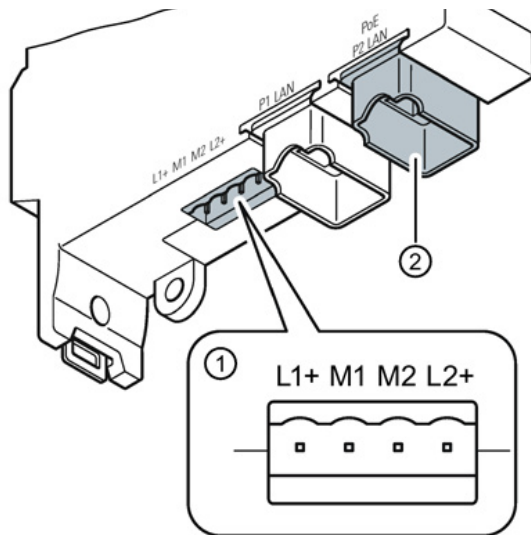

Fig. 67: Transceiver connection for Ethernet
- Insert the Ethernet connector (RJ45) into the P1 socket on the transceiver (see Fig. 67). Follow the information and safety instructions in the manufacturer's documentation!
- Direct line feed via the 4-pin connection socket: Pin assignment (see Fig. 67):